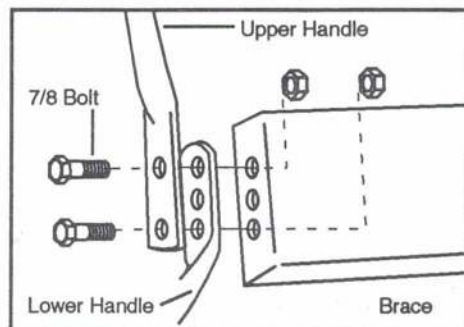

Fig. 1
**C.** Place the handle brace plate between the lower handle braces and bolt all pieces together with 1/4-28 x 7/8" bolts. Place A 1/4" nut on each bolt and tighten securely. (refer to Fig. 1)